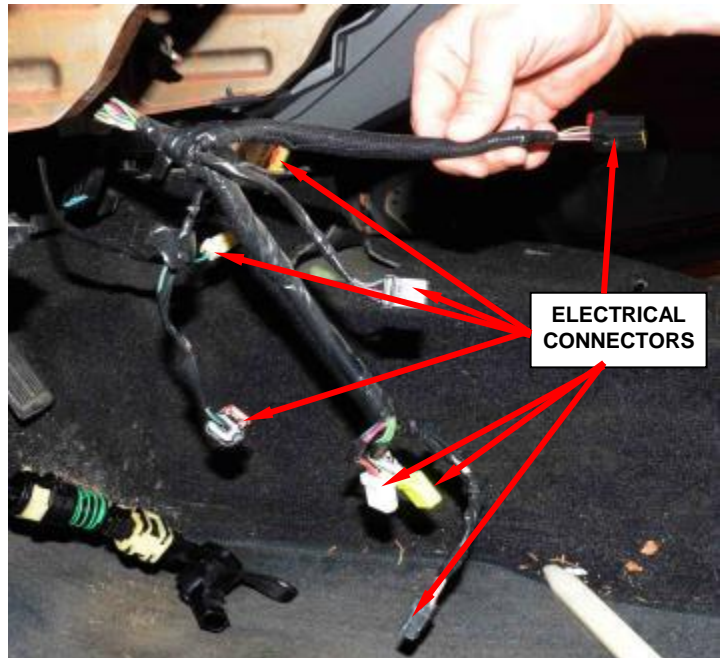

Figure 104 – Column Electrical Connectors
12. Disconnect the wiring harness electrical connectors from the column (Figure 104).